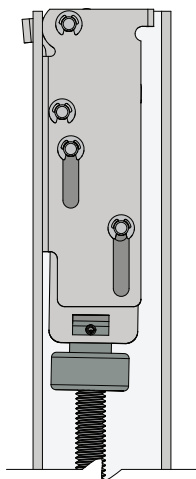
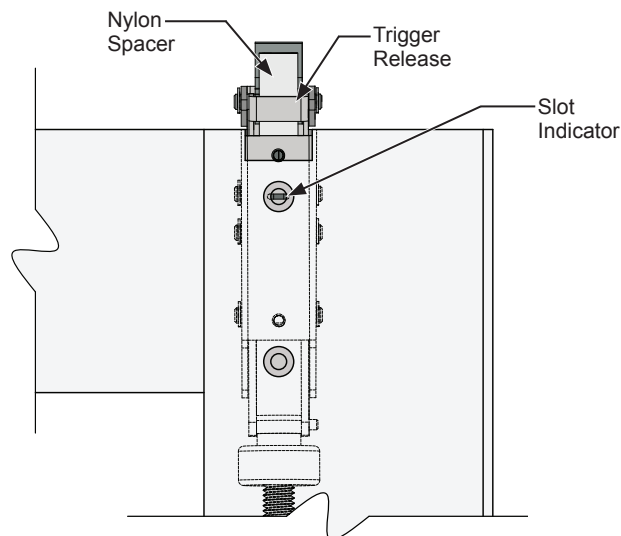

FIG. 24
FIG. 25
2. Remove the (2) **(B)**10-32 x 1/4" flat head machine screws at the top of the active door stile. Rotate the upper latch one rotation clock wise or counter clock wise then pull the latch upwards to the open position. **(Fig. 24)** Insert the nylon spacer. Once the slot indicator aligns with the upper counter sunk hole on the door stile. **(Fig. 25)** Remove the nylon spacer and depress the trigger release. The latch will shift vertically 1/2". Re-attach and secure the latch case with the (2) **(B)**10-32 x 1/4" flat head machine screws.
2. Depress the push bar, The bottom rod will retract and the latch will move to the unlocked position. **(Fig. 24)** With the latch in this position adjust the bottom bolt using the adjustment wrench **(H)** included. **(Fig. 27)**